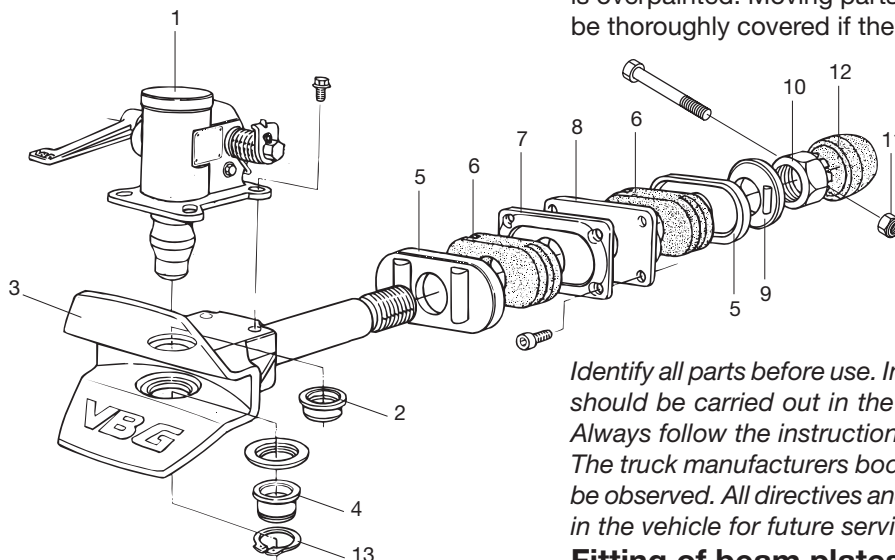

Figure 3
- Fit the remaining parts as shown in *figure 3*. Make sure that the thread of the horizontal shaft is well greased. Keep the coupling jaw horizontal whilst tightening the castellated nut by hand.